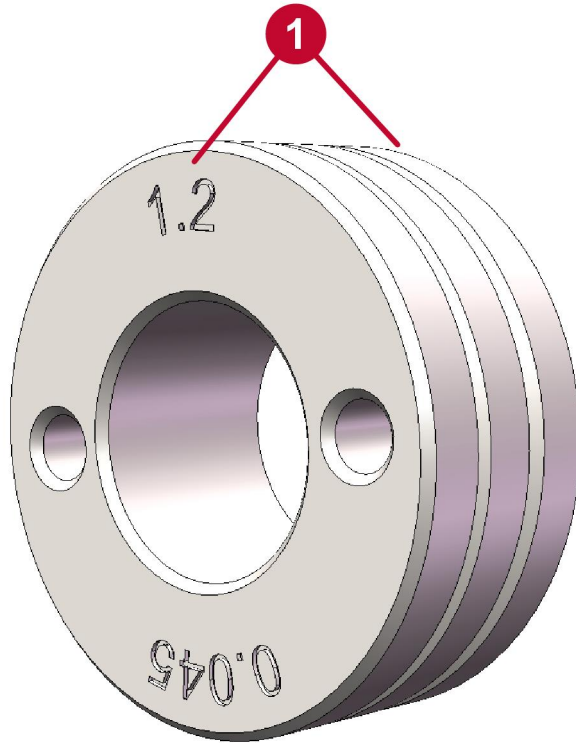

Figure 17. Wire-feed rollers offered in multiple sizes
1. Install the two new drive rollers (both the same part number and in the same and correct groove orientation). Verify that the correct size groove is oriented on the **inside** (see Figure 17).